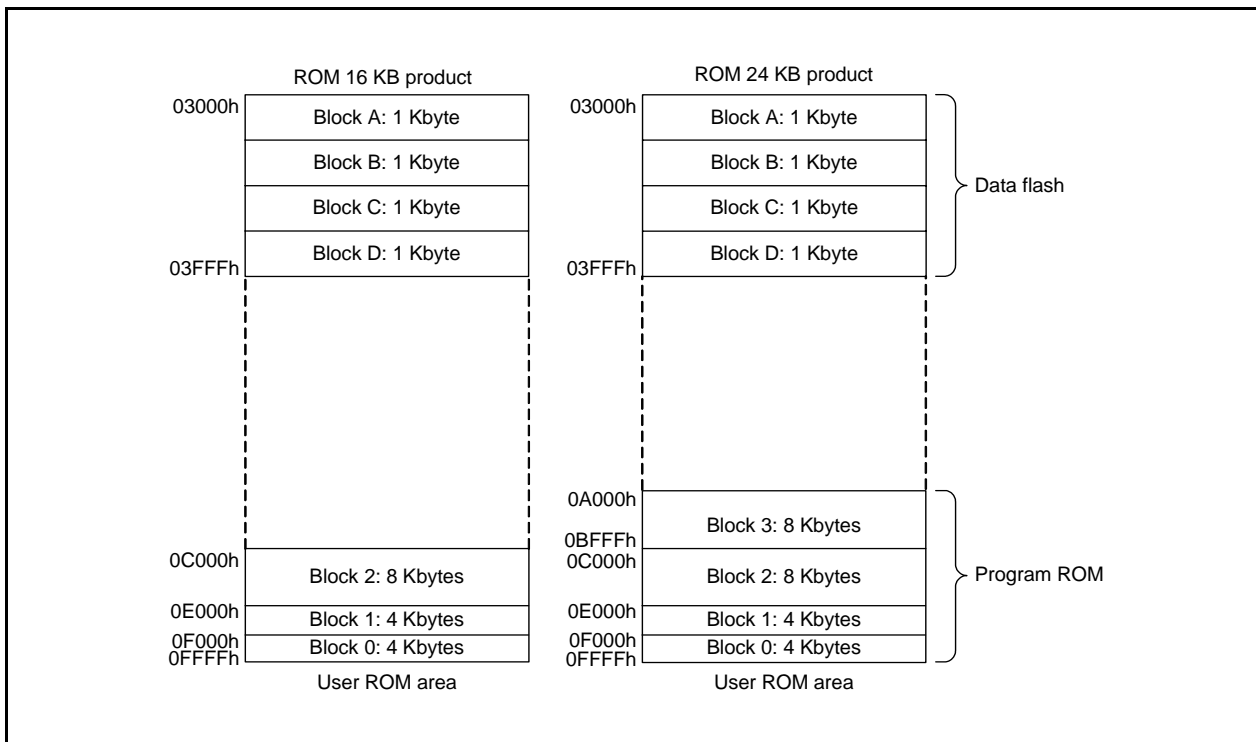

Figure 33.1 R8C/38C Group Flash Memory Block Diagram (1)
- The number of blocks and block division vary with the MCU. Refer to **Figures 33.1 and 33.2 R8C/38C Group Flash Memory Block Diagram** for details.
Figures 33.1 and 33.2 show the R8C/38C Group Flash Memory Block Diagrams.